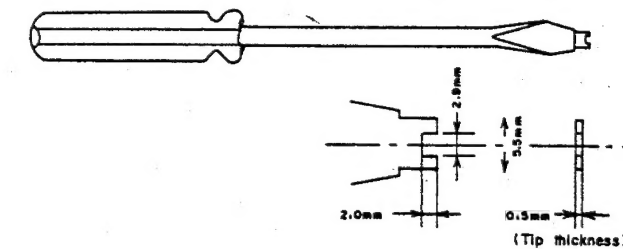

Fig. 4-4
Special nut is used in the tape guide (A) height adjustment nut ①. For easy adjustment, please make height adjustment nut driver by filing ordinary minus screw driver as shown Fig. 4-4.